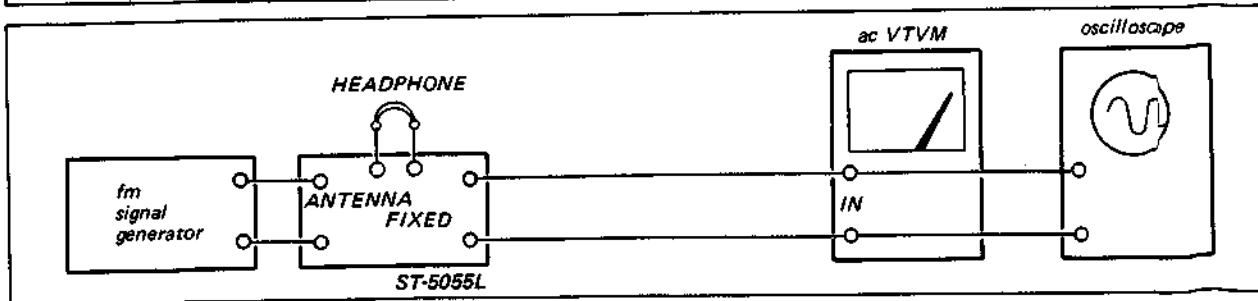

Fig. 3-2. Fm i-f, muting, and front-end alignment test setup
1. With the equipment connected as shown in Fig. 3-2, set the signal-generator controls as follows:
1. Connect the equipment as shown in Fig. 3-2.
1. With the equipment connected as shown in Fig. 3-2, set the signal generator output as follows: